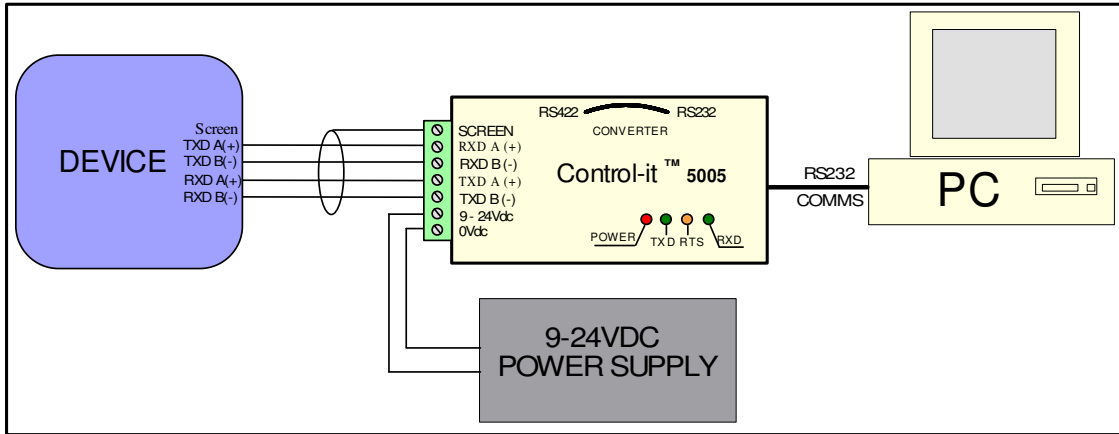

Figure 3
2. Wire the RS422 connector to your device as per figure 3.